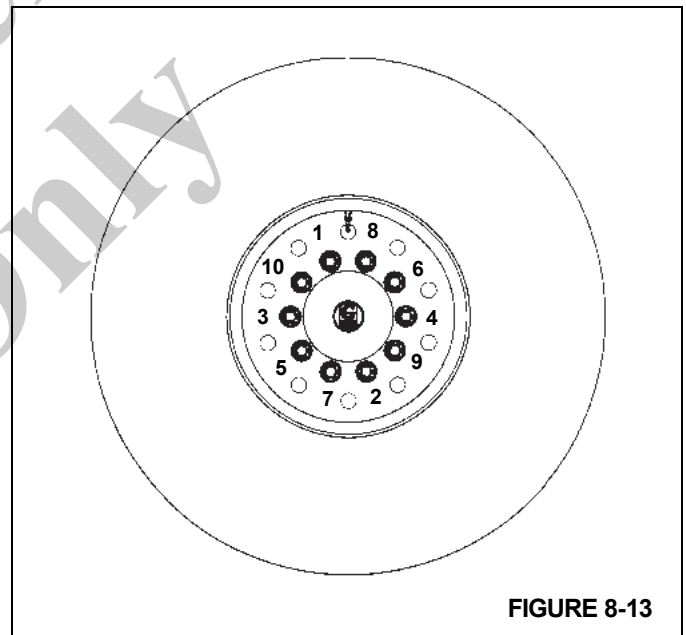

FIGURE 8-13
6. Tighten the lug nuts in the sequence shown to a preliminary torque of 68 Nm (50 lb-ft) (see Figure 8-13).
7. Keep tightening the lug nuts in the sequence shown until all 10 are torqued to 610 to 678 Nm (450 to 500 lb-ft) (see Figure 8-13).